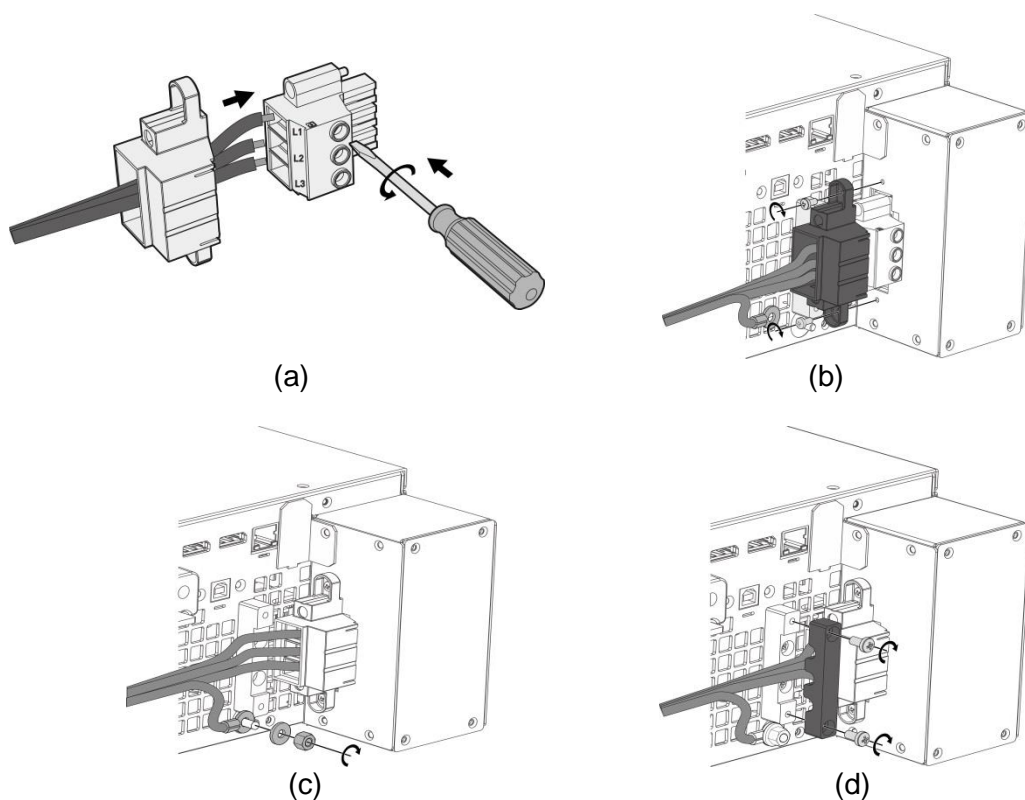

Figure 2-1
- (1) The input power connector is located at the right of the rear panel.
- (2) The power line must be rated at least 105°C.
- (3) The power cable width must be 8AWG at least.
- (4) Assembly ➡ see Figure 2-1(a)~(d) and execute the following steps: